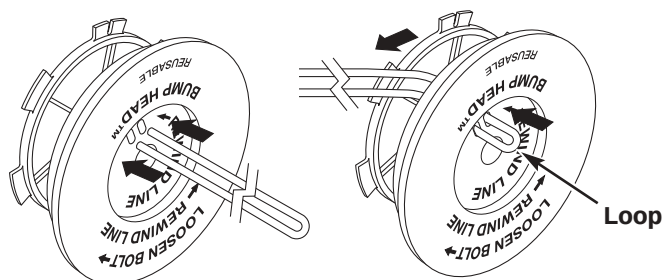

Fig. 35
NOTE: SplitLine™ can only be used with the inner reel with the slotted holes. Single line can be used on either type of inner reel. Use Figure 35 to identify the inner reel you have.
- Take approximately 40 feet (12.2 m) of new trimming line, loop it into two equal lengths. Insert each end of the line through one of the two holes in the inner reel (Fig. 35). Pull the line through the inner reel so that the loop is as small as possible.